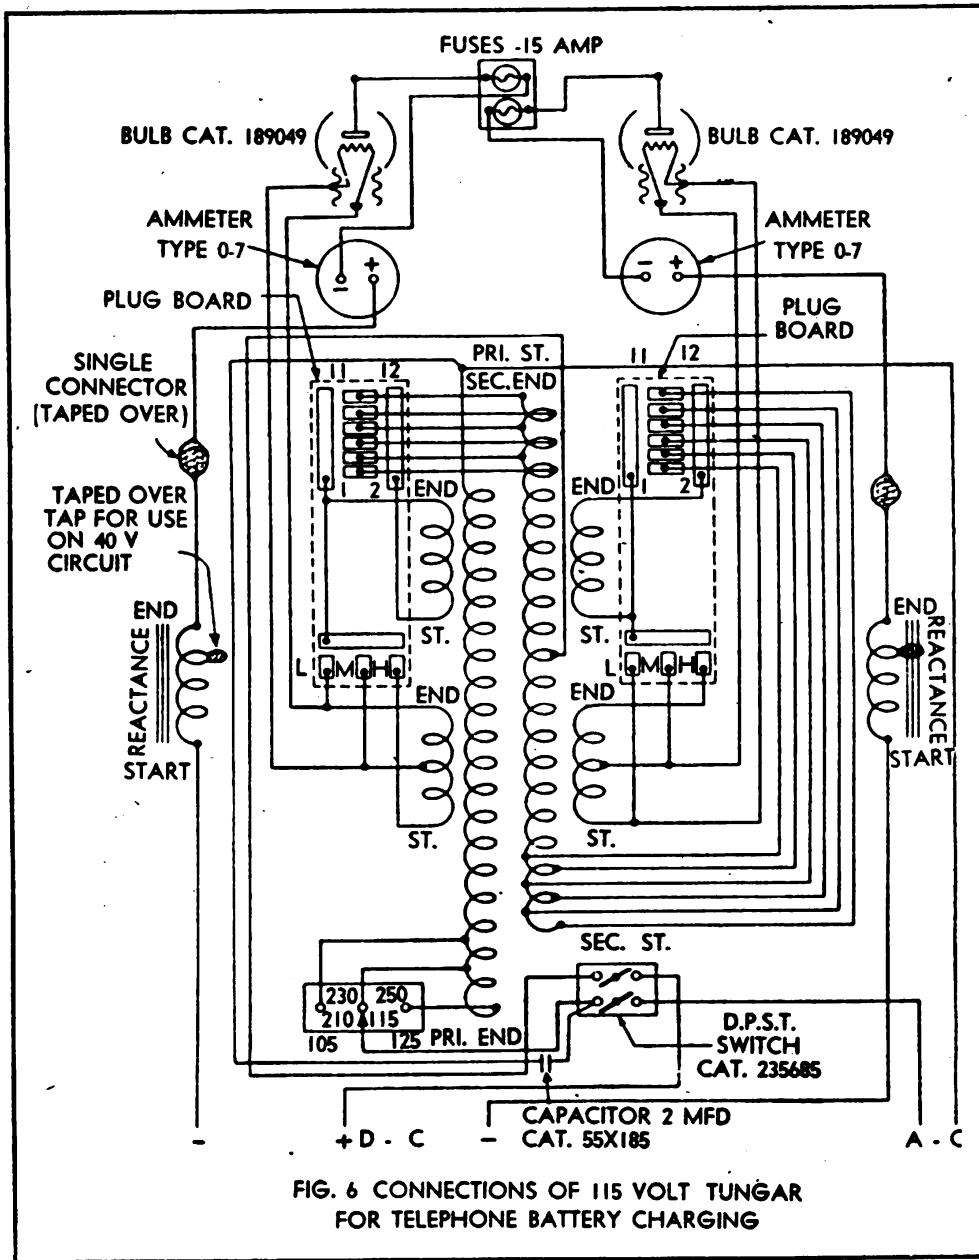

Figure 4—Rectifier RA-36-(\*) circuit diagram
b. The power transformer primary winding is provided with taps to compensate for fluctuations in a-c line voltage. These taps are indicated on Figure 4 showing proper tap for operation on 105, 115, and 125 volt lines.